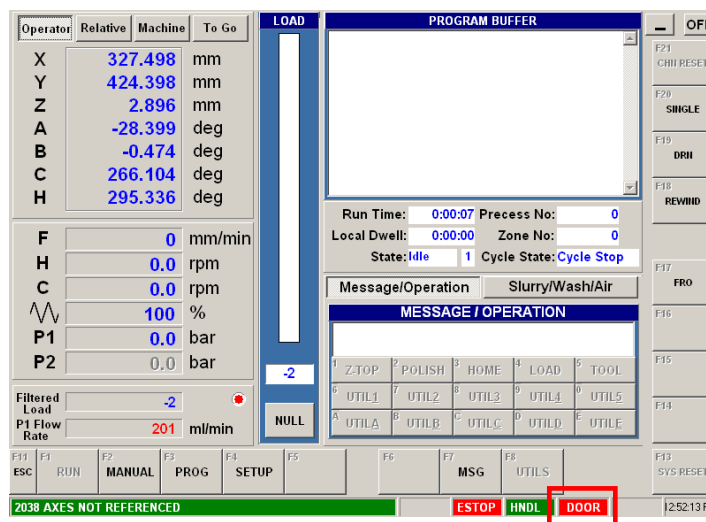

Figure 5 - 'DOOR' status display
3. Observe that the “DOOR” status display on the GUI is RED. See *Figure 5 - 'DOOR' status display.*